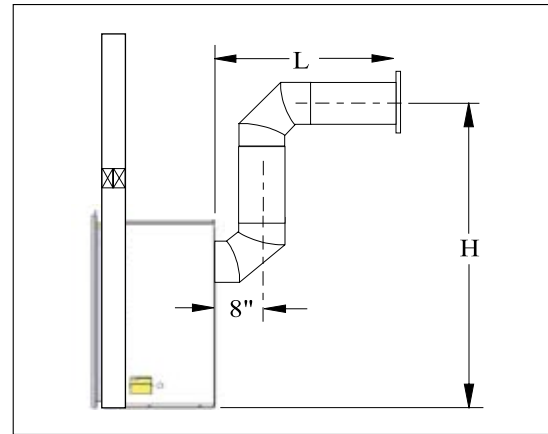

Figure 23. Multi-elbow installation.
- Or, you must use two 90° elbows; have a minimum vertical lift of 50" (measured from the hearth) As shown in Figure 23.
The L52-DF, Rear Vent has only two possible installation in the rear vent configuration, one 90degree elbow off the back and straight up through the roof of the structure, or Figure 23 with two elbows.